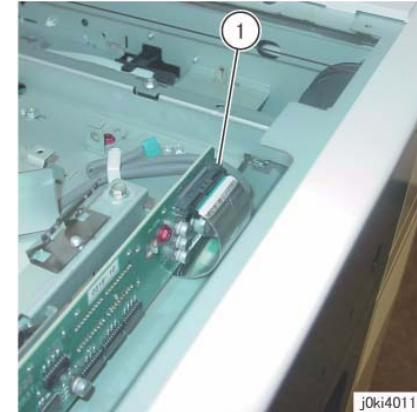

Figure 2 Disconnect the CCD Flexible Print Cable
5. Disconnect the CCD Flexible Print Cable. (Figure 2)